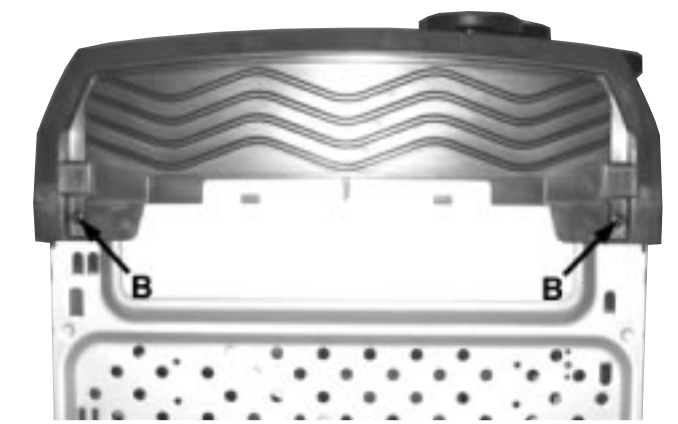

Figure 5
- 1) Remove 2 screws B (pos 226) as shown in Figure 5 from the bottom of the Cabinet Front (pos 101).